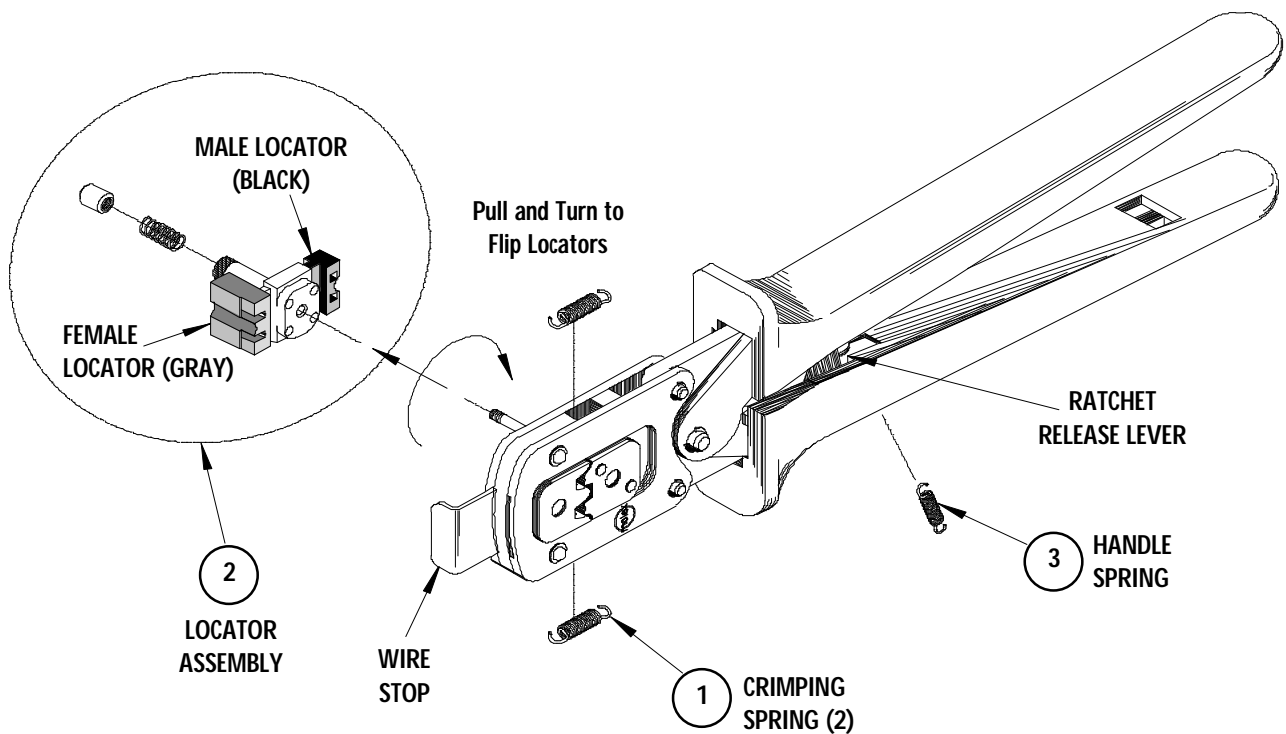

Figure 3
2. To position the desired locator, pull up on the knurled pin and turn 180° till the locator fits snugly in the slot. See Figure 3, Assembly Drawing.
## Miscrimps or Jams (See Figure 3)